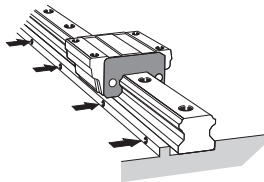

Fig.9 Tightening the Set screws
- (3) Secure the set screws for the LM rail in order with a tightening force just enough to have the rail closely contact the side mounting surface. (Fig.9)